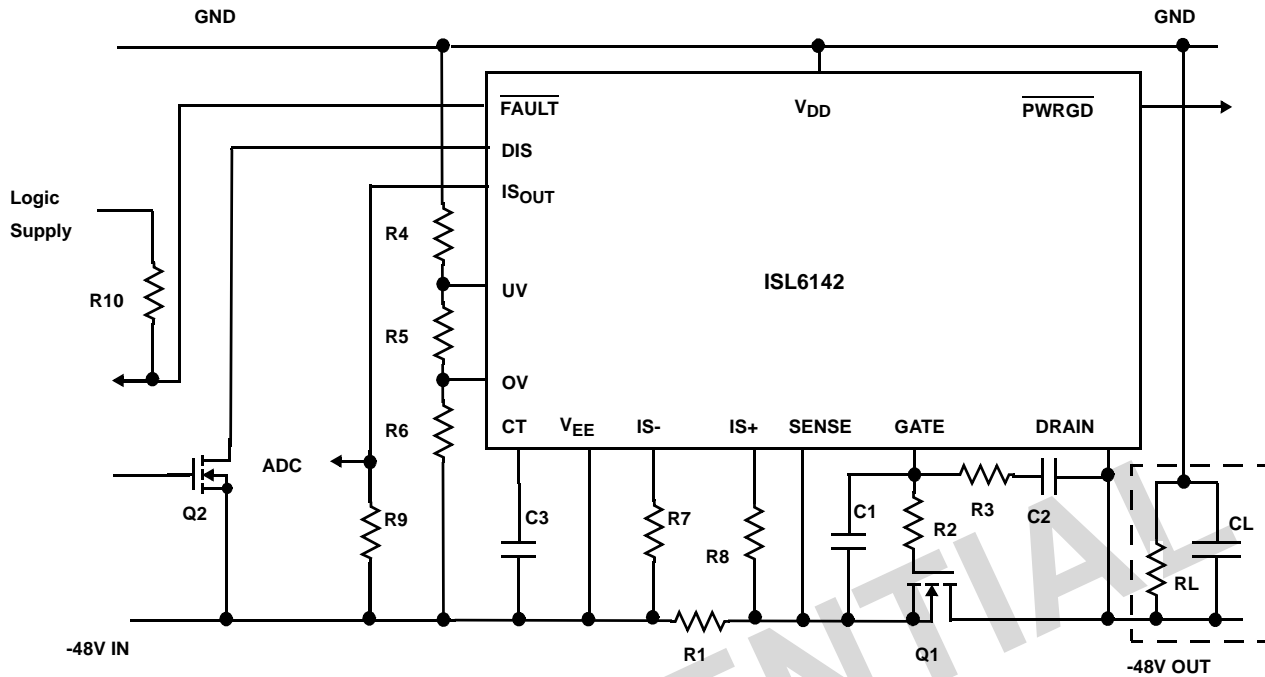

FIGURE 29. TYPICAL APPLICATION WITH MINIMUM COMPONENTS
(See Figure 29 for reference)
The values of R4 = 549k, R5 = 6.49k, and R6 = 10k shown in Figure 29 set the Under-Voltage threshold at 43V, and the Over-Voltage, turn off threshold to 71V. The Under-Voltage (UV) comparator has a hysteresis of 135mV's (4.6V of hysteresis on the supply) which correlates to a 38.4V turn off voltage. The Over-Voltage comparator has a 25mV hysteresis (1.4V of hysteresis on the supply) which translates to a turn on voltage (supply decreasing) of approximately 69.6V.